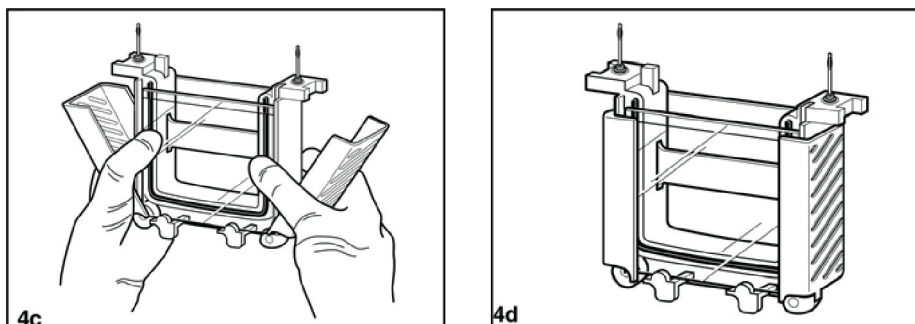

Figure 4c–4d: Clamping the cassette and the completed module
- (1) With one hand, gently push the two gel plates toward the centre against the red gasket strip, making sure the plain glass plate is below the groove at the top of the red gasket.
- (2) Hold the gel plates firmly with one hand and, with the other, close the red cassette clamps onto the plates until they lock into place. Alternatively, hold the whole assembly with both hands to steady the plates while closing both cassette clamps until they lock (see Figure 4c). The clamps push the plates so that the plain glass plate seats tightly against the groove of the red gasket, preventing leakage. (Confirm that the plain glass plate is below the groove at the top of the red gasket.) The sample wells can now be rinsed with buffer and loaded (see Figure 4d).